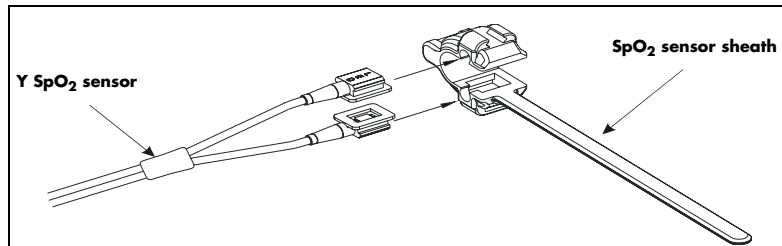
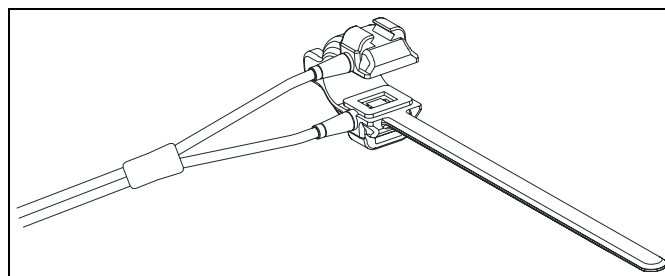

FIGURE 3-17 Inserting the Y SpO₂ sensor into the sheath
FIGURE 3-18 The Y SpO₂ sensor inserted in the sheath
1. Insert the LED and pulse detector ends of the Y SpO₂ sensor into the respective grooves of the sheath (see FIGURE 3-17 and FIGURE 3-18).